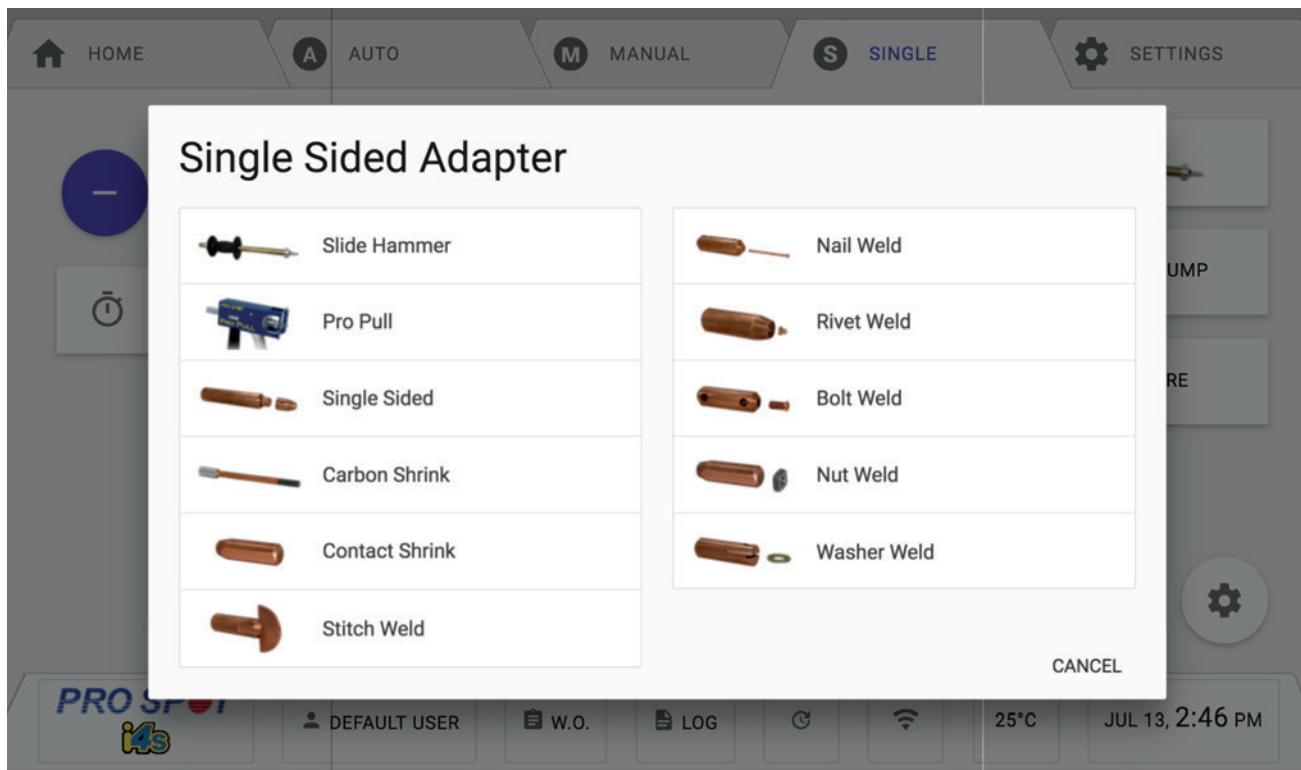

Figure 6.2
1. Select the desired adapter and program from the Single Sided Adapter Menu (Figure 6.2).